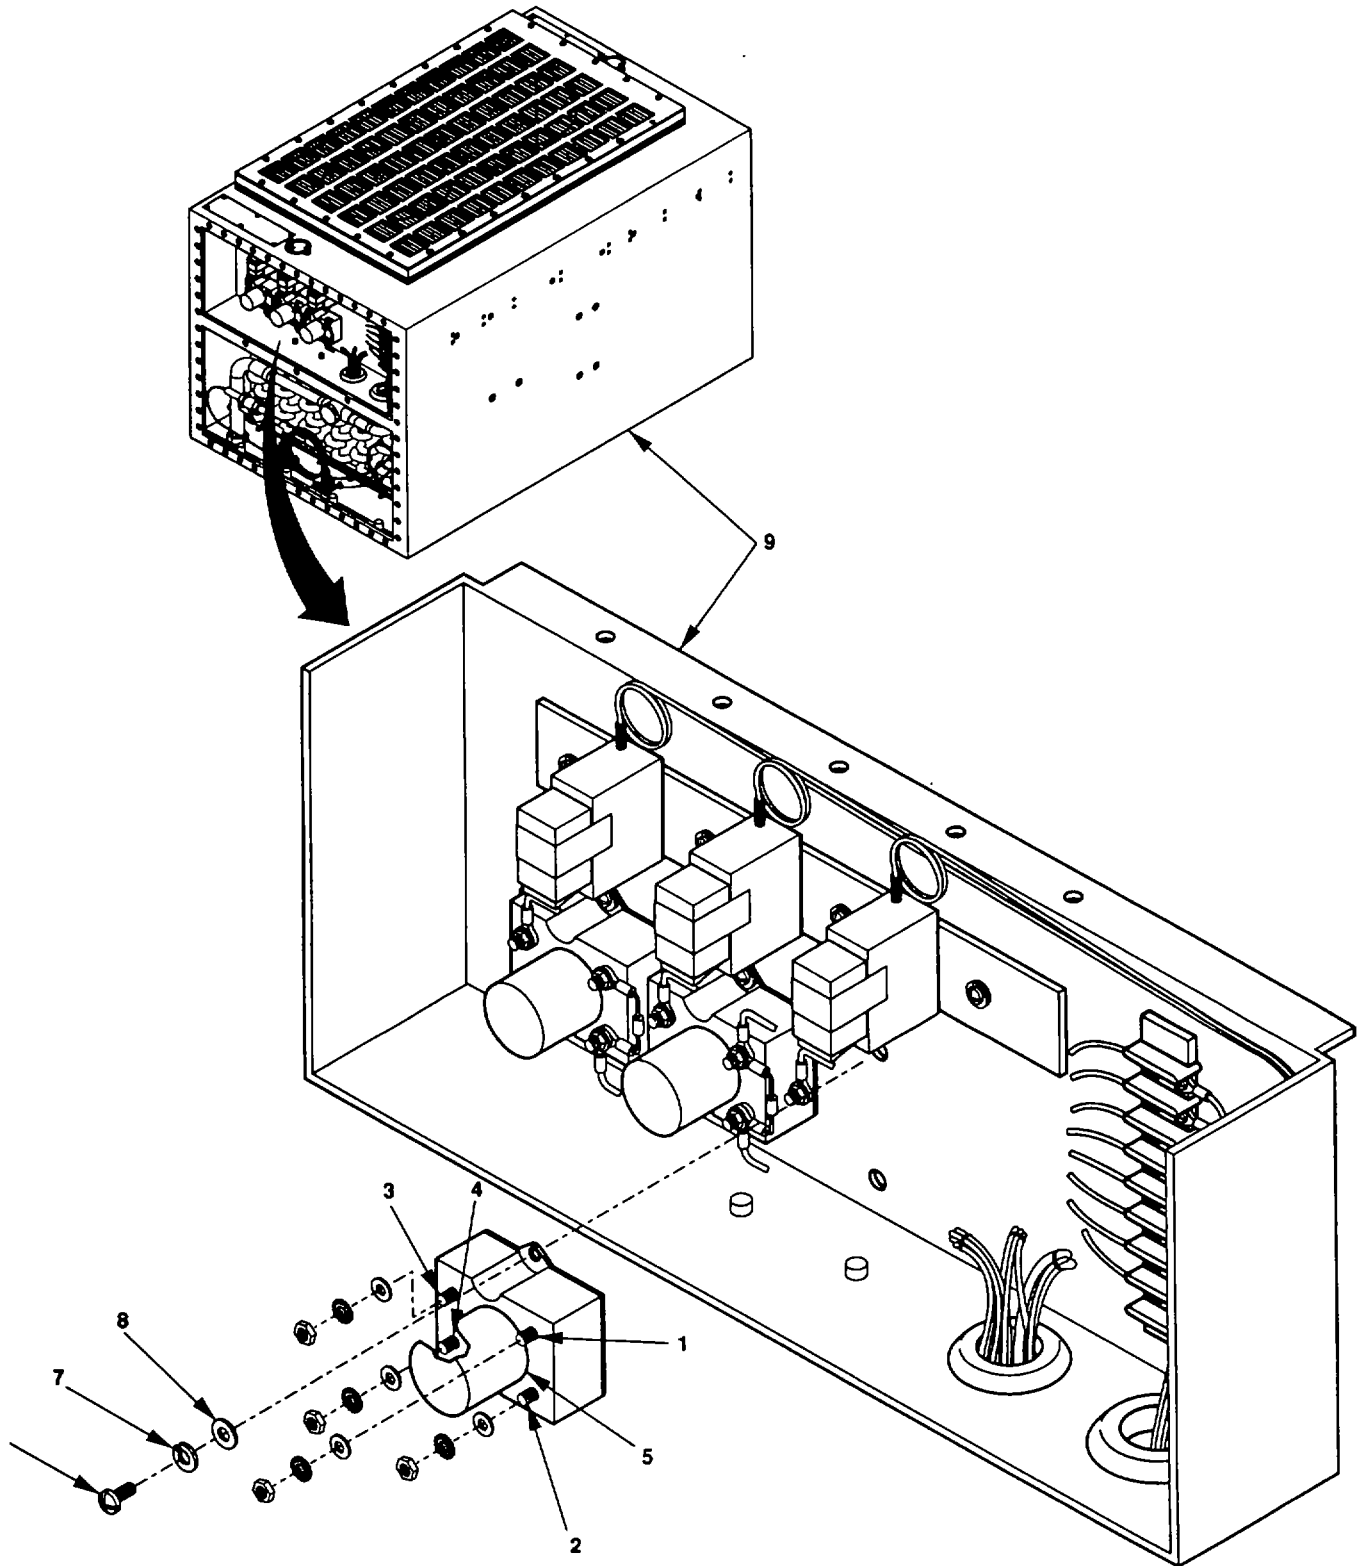

Figure 4-12. 50 Amp Relay Maintenance.
- (1) With air conditioner operating in HIGH COOL mode, paragraph 2-5, measure voltage across wire terminals X1 (Figure 4-12, 1) and X2 (2) and A1 (3) and A2 (4) of relay K3 (5) for 28vdc. If either measurement is 0vdc, replace relay K3.
- (2) When left condenser fan assembly is operating measure voltage across wire terminals X1 and X2 and A1 and A2 of relay K1 for 28vdc. If either measurement is 0vdc, replace relay K1.
- (3) When right condenser fan assembly is operating measure voltage across wire terminals X1 and X2 and A1 and A2 of relay K2 for 28vdc. If either measurement is 0vdc, replace relay K2.